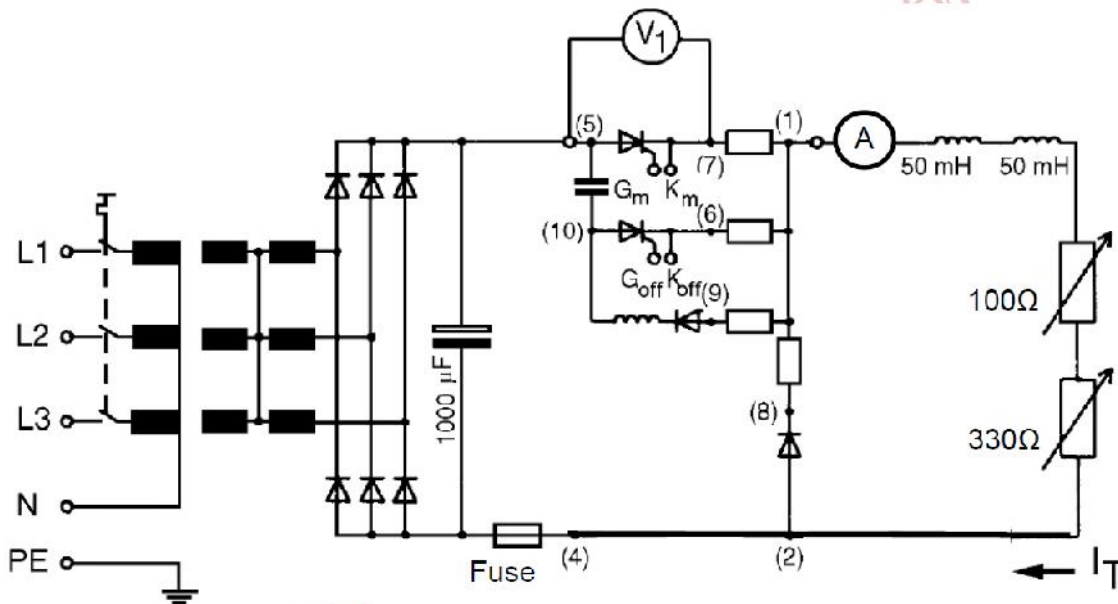

Figure 5.4 Modified Configuration of the equivalent circuit of a Step-down Converter implementing an SCR
- 1) Modify the configuration of the Step-down converter equipment to match the equivalent circuit shown in Figure 5.4. Note that the Transformers' secondaries produce a phase-to-neutral voltage of **45V**, and the load is an RL type consisting of **two series-inductors** (50mH each) **in series with two-series resistors** (100Ω in series with 330Ω). Initially, **set the resistors to their maximum values**.